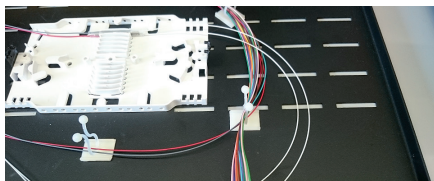

imagen 6 / figure 6
*For better cable management, make sure to pass the connector below the input fibers. This way, if you ever need to replace a pigtail or connector, this task will be easier (figures 6,7 and 8).*